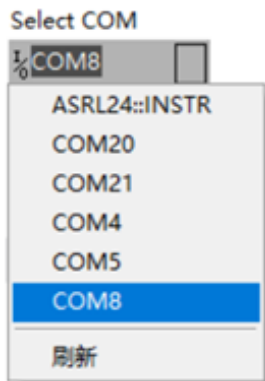
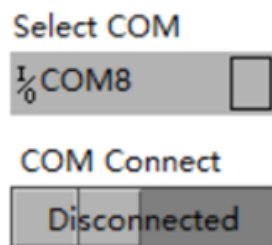
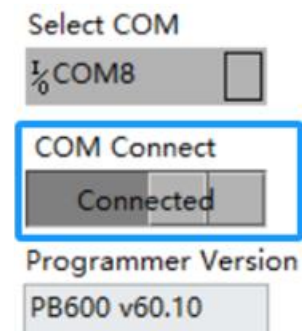

Figure 5.1.3 Select COM
Figure 5.1.4 COM Connect
Figure 5.1.5 Connected state
- Click the drop-down menu under "Select COM" to select the corresponding port number of the programmer (Figure 5.1.3). Click the "Disconnected" button under "COM Connect" to establish a communication connection between the programmer and the host computer (Figure 5.1.4). When the communication between the programmer and the host computer is properly established, the programmer returns the current firmware version number, which is displayed in the box corresponding to "Programmer Version" below (Figure 5.1.5).